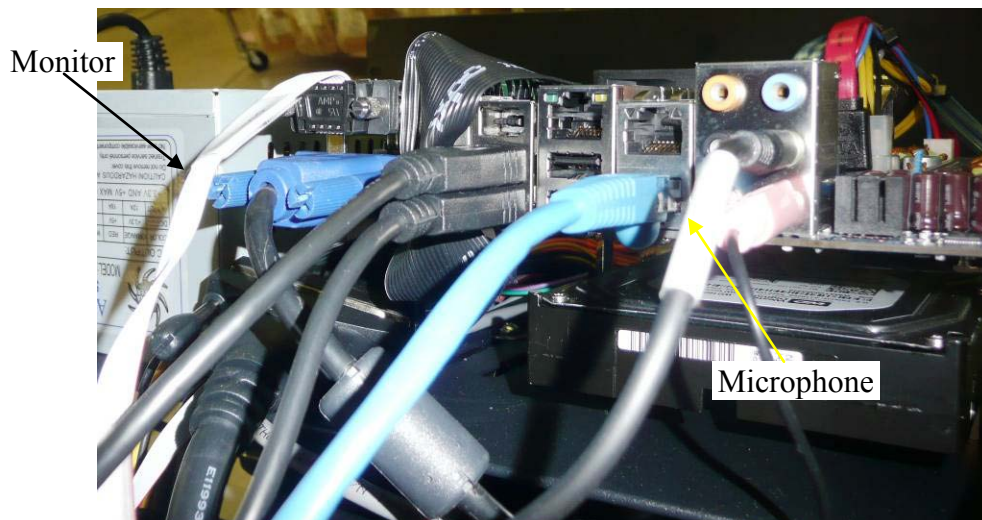
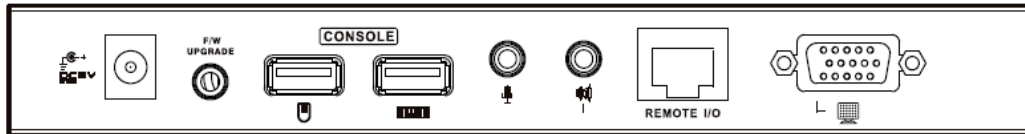
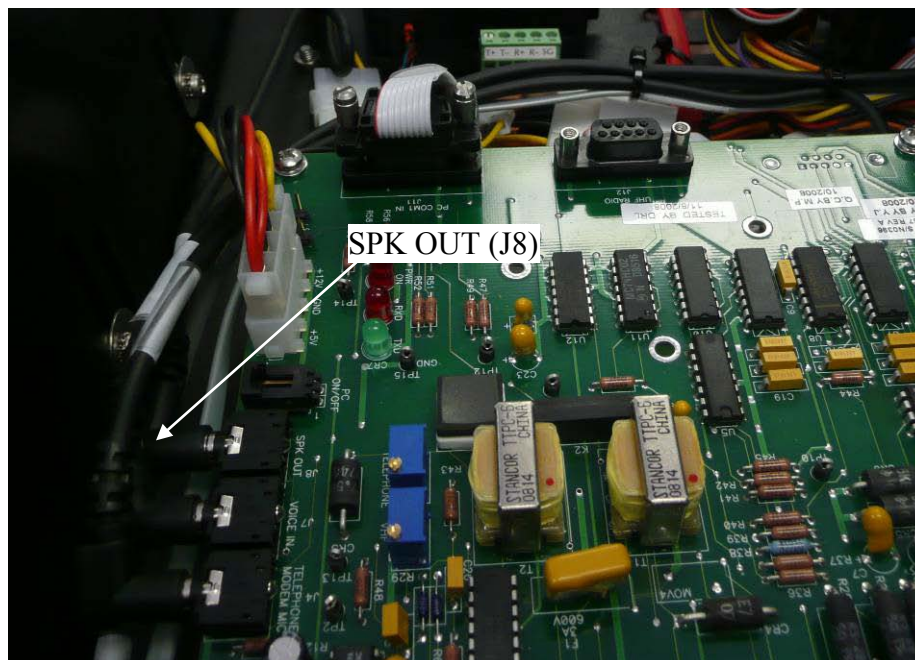

Figure 19. CPU Monitor & Microphone Connections
Figure 20. Local Unit Back Connections
Figure 21. Peripheral Interface Board
7. Remove the monitor connector from the back of the CPU board (see Figure 19). Plug this connector into the blue monitor connector on the back of the Local Unit (Figure 20).
9. Remove the pink microphone connector from the back of the CPU board (Figure 19). Plug this connector into the pink microphone connector  on the back of the Local Unit (Figure 20).
12. Remove the right angle audio connector in the J8 SPK OUT jack on the peripheral interface board (Figure 21). Connect this to the green speaker connector  on the back of the Local Unit (Figure 20). You may have to cut some cable ties to pull this cable to the Local Unit.